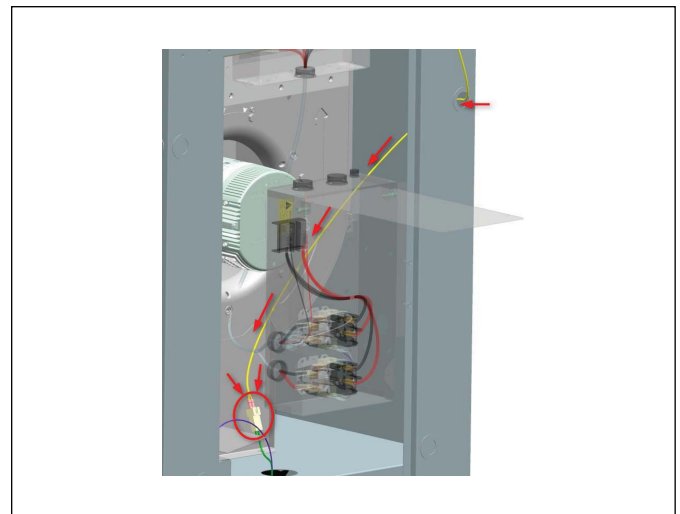
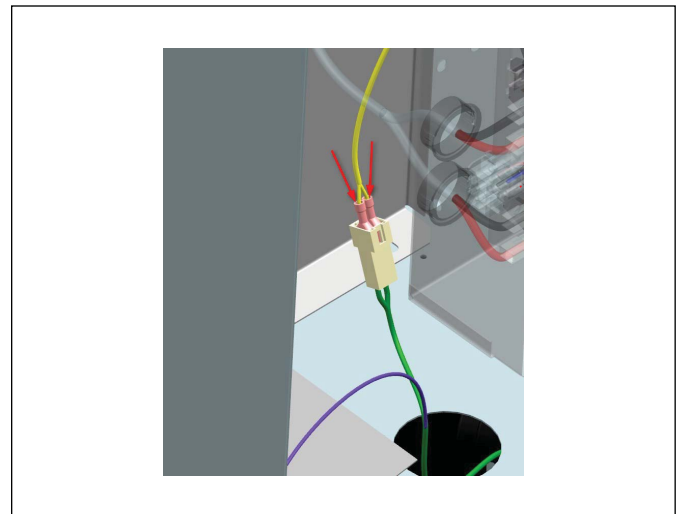

Figure 44
Figure 45
4. Open knockout and route wire though hole to the remaining female interconnect and connect both pink female terminals to male blades of the interconnect as shown in Figure 44. (Figure 45 is a closer view of completed connection shown in Figure 44.)